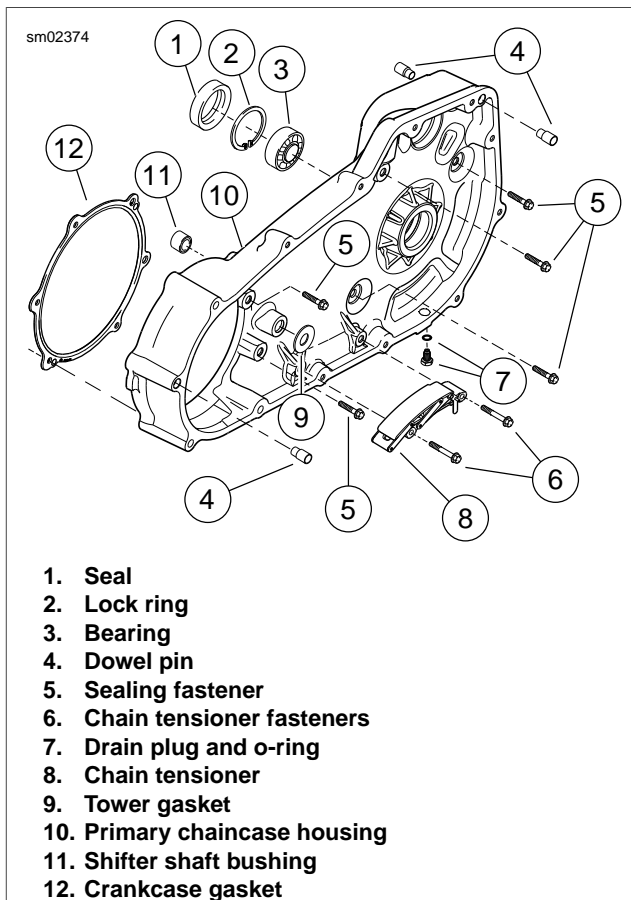

Figure 6-19. Primary Chaincase Housing
5. See Figure 6-19. Remove sealing fasteners (5) securing primary chaincase housing (10) to crankcase and transmission. Discard the crankcase gasket (12) and sealing fasteners.